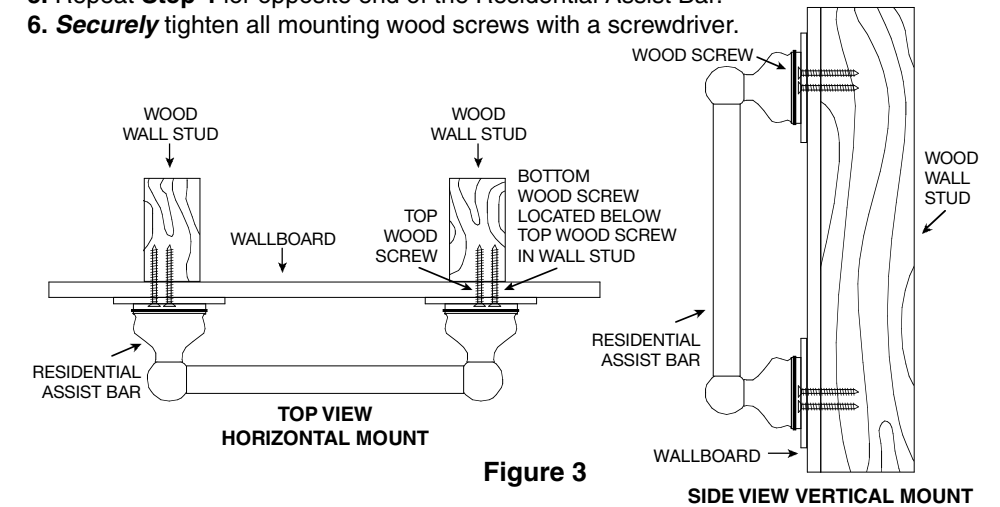

Figure 3
4. Insert the wood screws provided into one end of the Residential Assist Bar. Screw into wall and wall stud (**HAND TIGHTEN ONLY**) (see **Figure 3**).